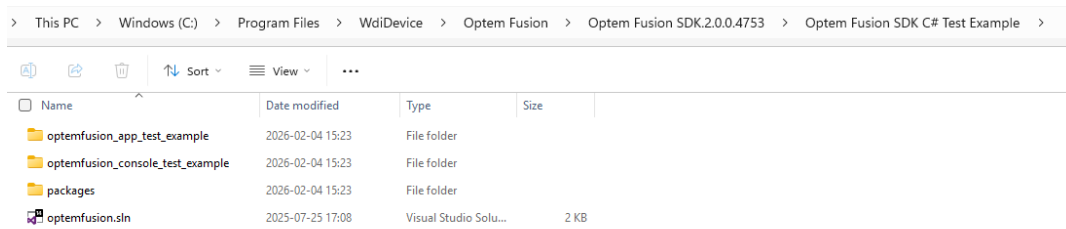

Figure 48 C# Test Example Executable File Folders
2. Locate the executable file from the following folder (see Figure 48):